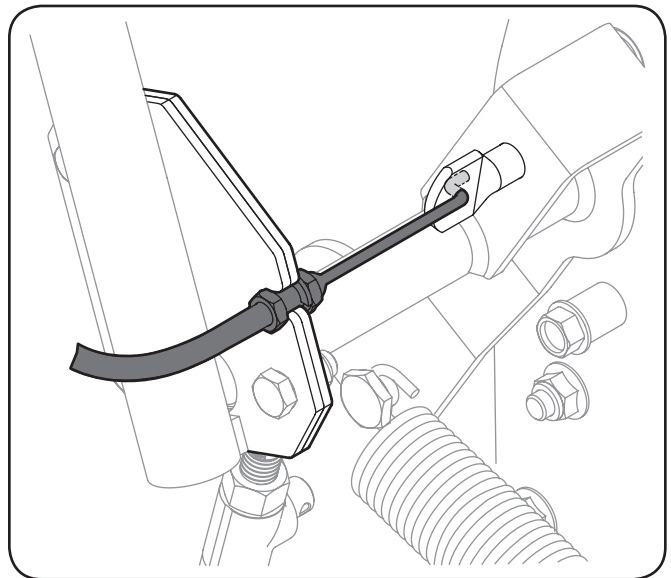

Figure 3-21
- Position the cable housing in the notch on the lift handle. Attach the Z-fitting end of the lift cable to the lock rod found on the lift shaft assembly. See Figure 3-21.